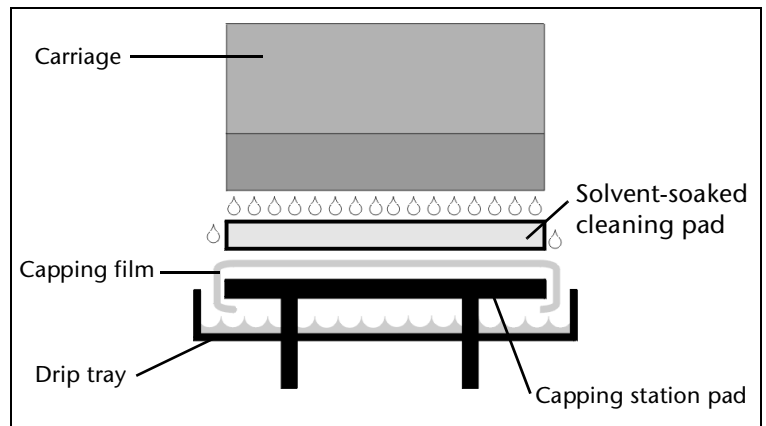

Fig. 5-4. Using the cleaning foam pad on the service station
- ◆ **Cleaning solvent soak** — if a manual cloth wipe fails to recover enough jets, you can soak the thin foam pad that ships with the printer with SolaChrome-HR cleaning fluid, then cap the printheads with this pad overnight as shown (Fig. 5-4 on page 5-9).